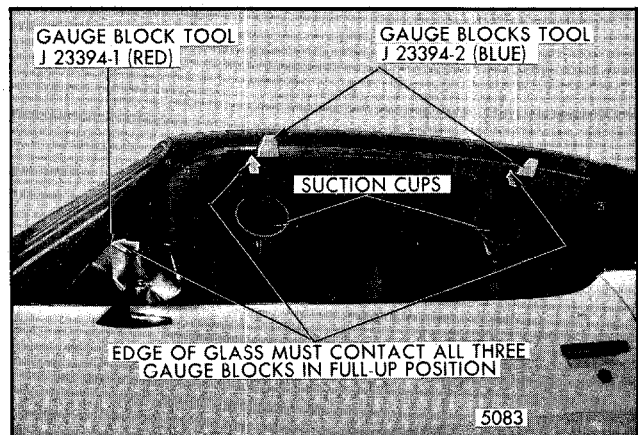

Fig. 5-127-Door Window - Fore and Aft Alignment - "F" Styles
5. Fore-Aft Alignment: Lower glass and install gauge block, tool J-23394-1 (red) or equivalent, into retainer as shown in Figure 5-127 with handle inboard. Make sure gauge block is fully engaged in retainer. Raise window until edge of